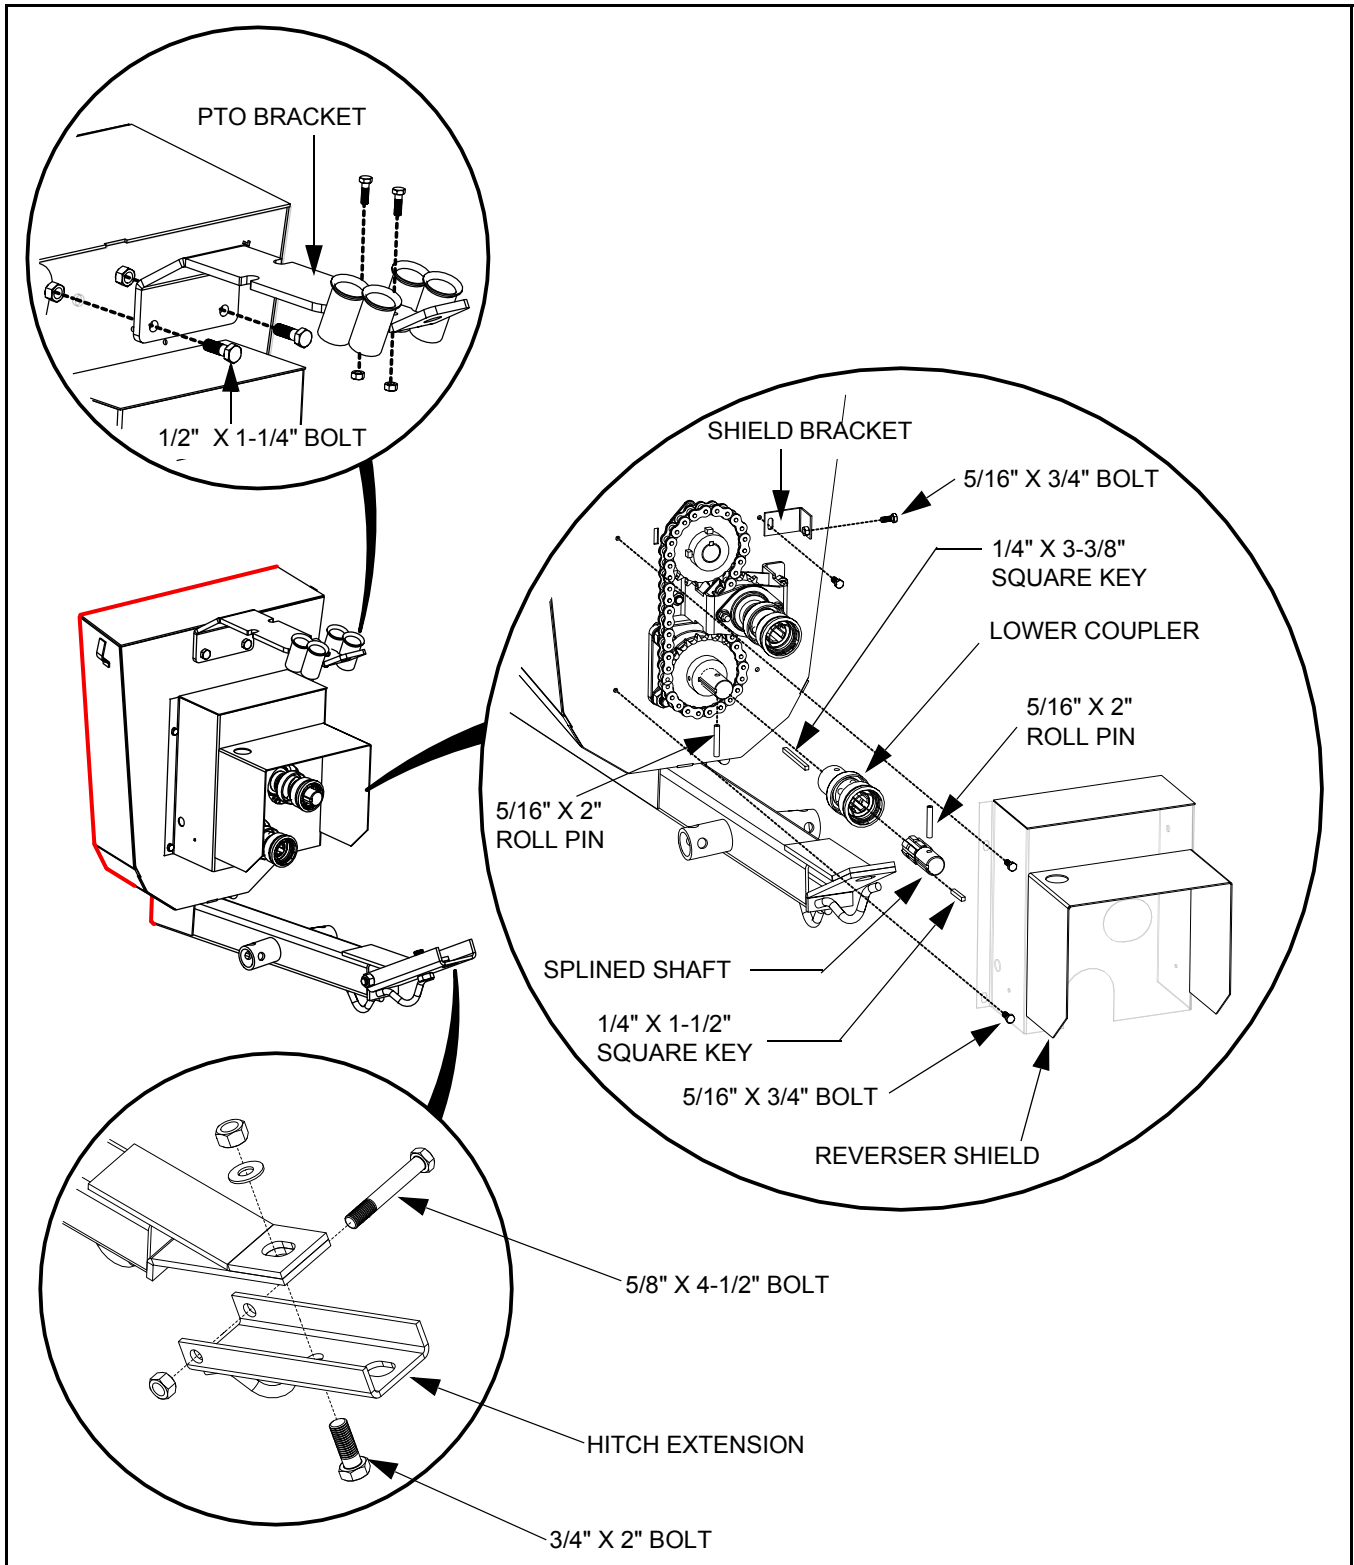

Figure 4 Reverser Assembly Details (Splined Shaft, Coupler, Shield, and Hardware)
6. Install the lower coupler on the flight shaft using a 1/4" x 3-3/8" square key and secure using a 5/16" x 2" roll pin (see Figure 4).